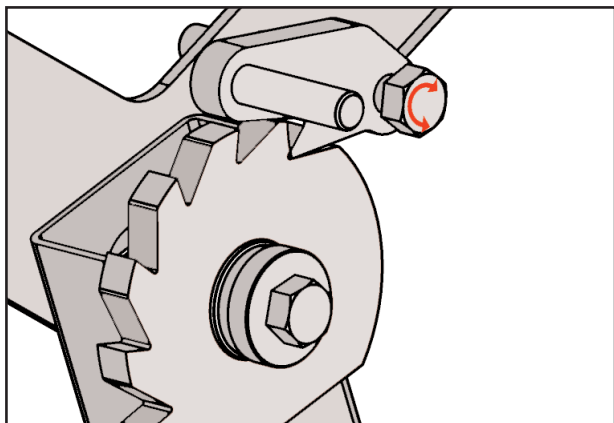

Figure 11 – Cradle fastened by locking lever.
2) Remove the latch shown in figure 11 Then, activate the electrical winch to lower the cradle until reaching such a height to comfortably place the grain bag on the lift (70 cm aprox).